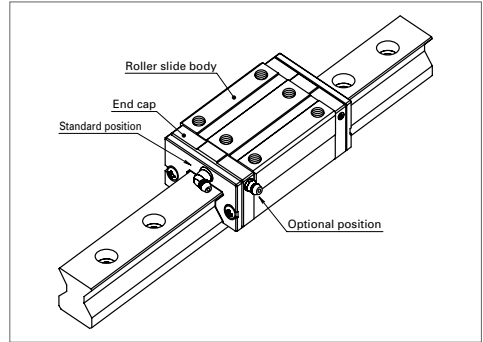

Fig. 11 Mounting position of lubrication accessories
(2) Mounting position of lubrication accessories
- > The standard position of grease fittings and tube fittings is the end face of roller slide. We can mount them on a side of end cap for an option. (Fig. 11) Please consult NSK for installation of grease or tube fittings to the roller slide body or the side of end cap.